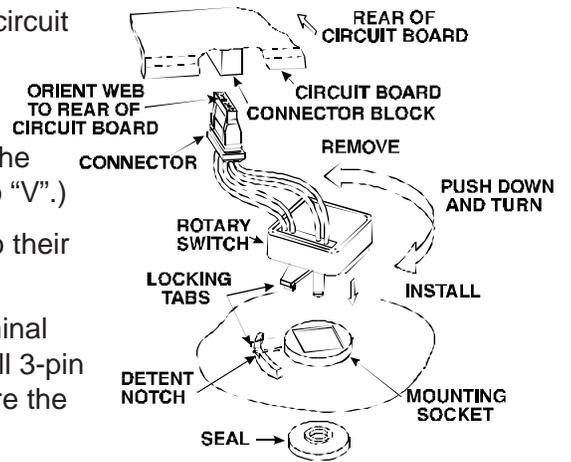

Fig. 9
Refer to Figures 9 and 10 for these procedures.
1. Install each rotary switch by first orienting the switch as shown in Figure 9. Insert the switch into the mounting socket in the control panel and turn it 45° clockwise or until the locking tab engages in the detent notch.